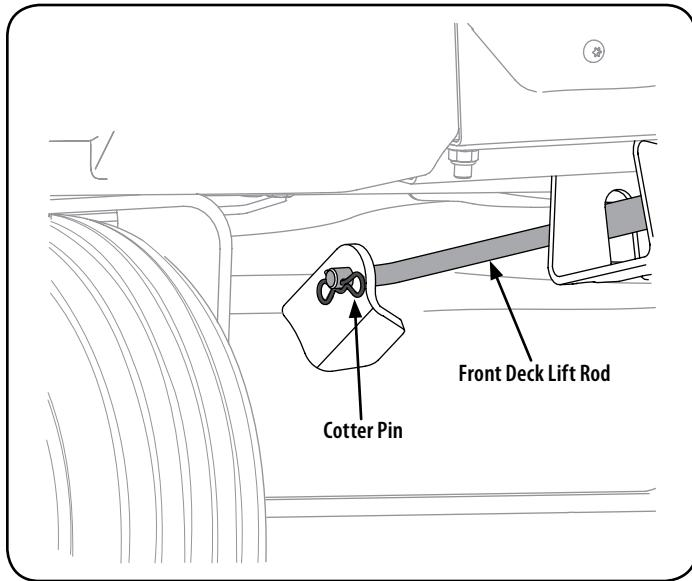

Figure 27
- Pull the cotter pin out of the front deck lift rod securing it to the deck. See Figure 27. Slide the deck lift rod out of the front hanger bracket.
- Reinstall the front deck lift rod and secure in place with the cotter pin. Refer to Figure 27.